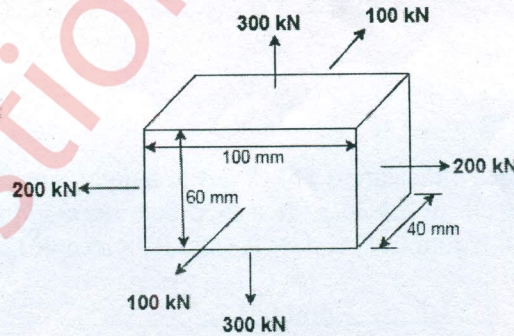

Fig. 7
- Q.6 (a) For a rectangular block in fig. 7, Determine the change in each dimension and change in volume. Young's modulus is 190 GPa and Poisson's ratio is 0.27. 08